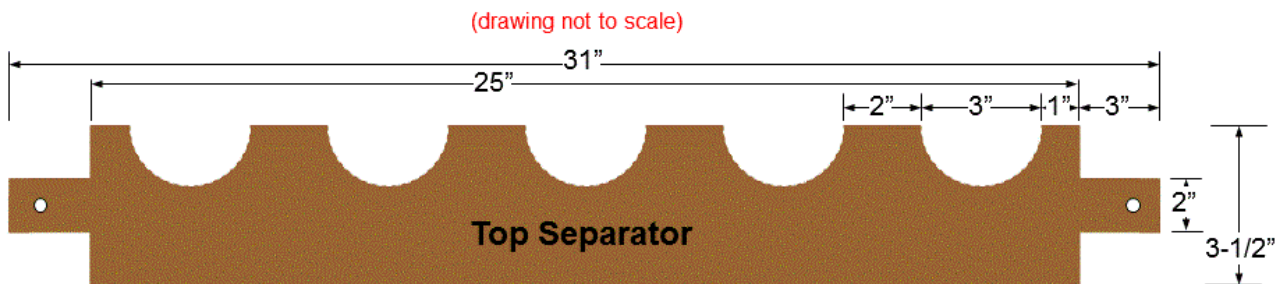

Figure 5
- Next, using the remainder of the same board, cut a 31" piece for the top separator. See figure 5. One method for cutting the round lance cut-outs is to clamp a piece of scrap to the edge of the separator board (or use the separator board for a 2nd lance rack, and then use a 3" holesaw in the seam of the boards to cut nice round holes. Just measure carefully to start each hole. Cut the tenons on the end of each top separator 3" long, but do NOT drill the peg holes yet.